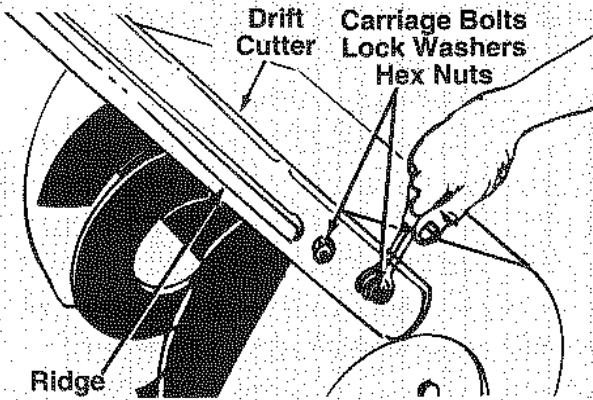

FIGURE 1.
2. Assemble the drift cutters as follows. Using a 1/2" wrench, remove the carriage bolts, lock washers and hex nuts which hold the drift cutters to the auger housing. Turn and place the drift cutters in position (ridges on the drift cutters go toward the outside of the unit). Secure with the hardware just removed, and carriage bolts (A), lock washers (B) and hex nuts (C). Heads of the carriage bolts are to the inside of the housing. See figure 1. Tighten securely.